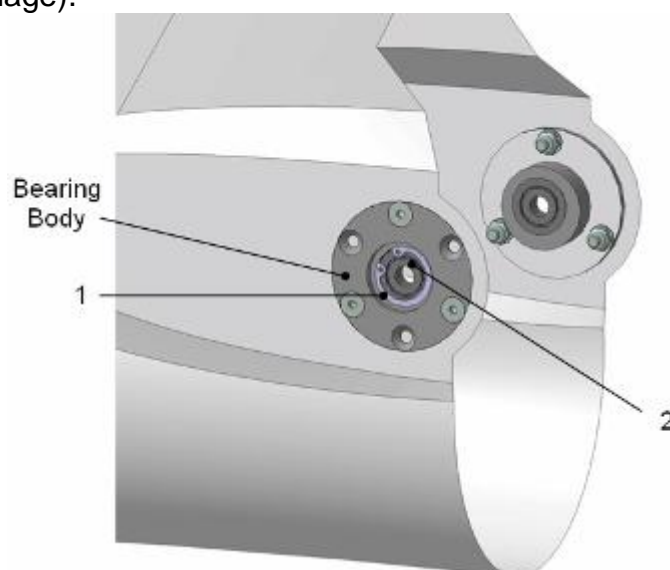

Fig. 4-9
1. Check that the lock rings (1) which secure the bearings (2) in bearing bodies are present on both sides of the fuselage (Fig. 4-9). Check inner rings of the bearings (2) for free rotation. Replace bearings, if necessary. For replacing of a bearing there is no need to remove a bearing body. Before the removal of the bearing body each of them shall be marked to ensure that it is re-installed later in the same position (L, R, and respective position to the fuselage).